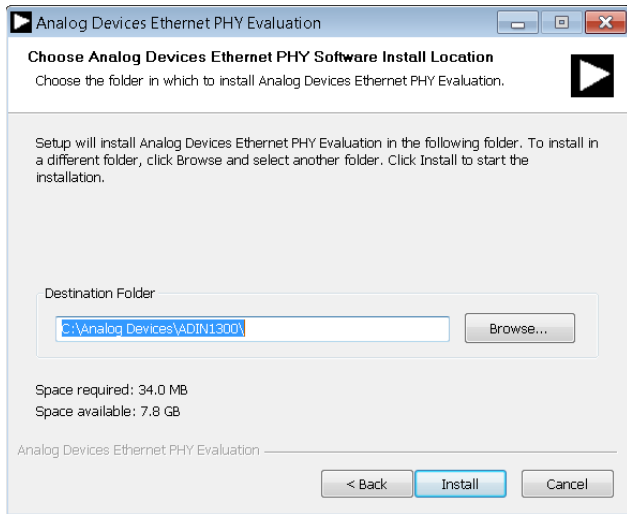

Figure 10. Installation Location
6. Select a location to install the Ethernet PHY software and then click **Install** (see Figure 10).